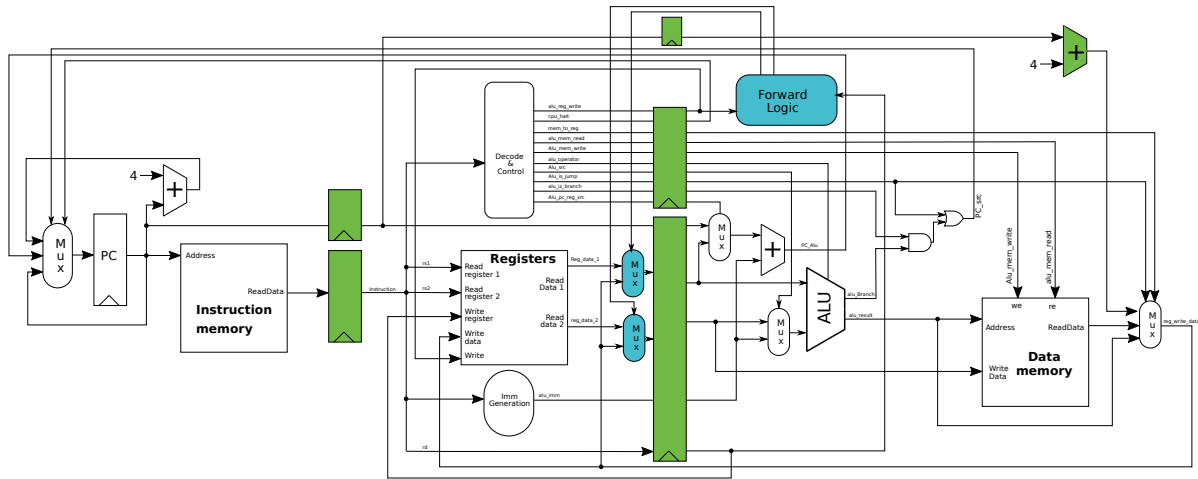

Figure 3.3: 3-stage pipelined processor.
In Figure 3.3, we introduce a pipeline register between the instruction decode (ID) and execution (EX) part of the processor.
As shown in Figure 3.3, pipeline registers are inserted for all control signals of the instruction and operation decoder, as well as for the read register values. Generally speaking, insert a pipeline register for all signals used in the later stage of the processor.
To solve this problem, there are two options available. The first solution is simple *stalling* the pipeline until the data is available in the register file. Of course, this reduces the performance of the processor. A better solution to this problem is so-called *forwarding*, which we implement in this assignment. With forwarding, we forward a computed result of the execution unit, in our case the signal `reg_write_data` to the input of the ID/EX pipeline stage. Thus, a new multiplexer (in blue in Figure 3.3) is inserted for the data of register port 1 and a second one for the register port 2. We now need to determine, when to forward a result rather than using the value stored in the register file. Thus, we implement a forwarding logic, which is controlling the two forwarding multiplexers. When the execute stage writes a register that is not x0 and that registers is also a source operand of the instruction of the ID stage, forwarding needs to be active. In this case, the forwarding logic controls the forwarding multiplexer to directly use the `reg_write_data` as the register input. Since RISC-V can have two source